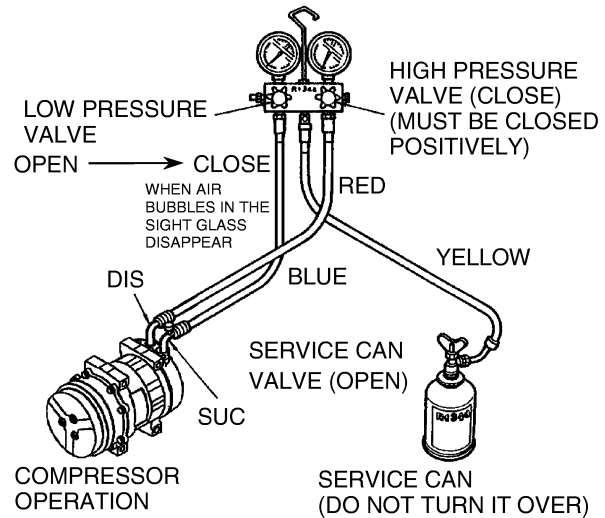

Fig. 30 Gas charging operation
(See Fig.30.)
- 5) Open the low pressure valve of the gauge manifold and the service can valve and fill in refrigerant till air bubbles of the sight glass of the receiver go away. (See Fig.30.)